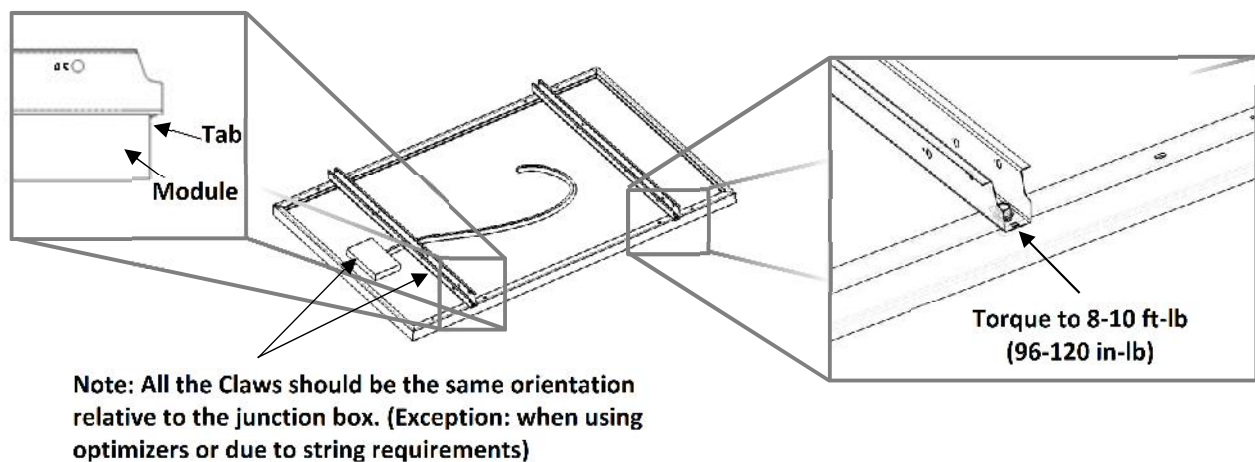

Figure 1 Claw Placement on Module
5. Press Claw tab against module frame and tighten bolt to 8-10 ft-lb (96-120 in-lb) of torque (Figure 1).